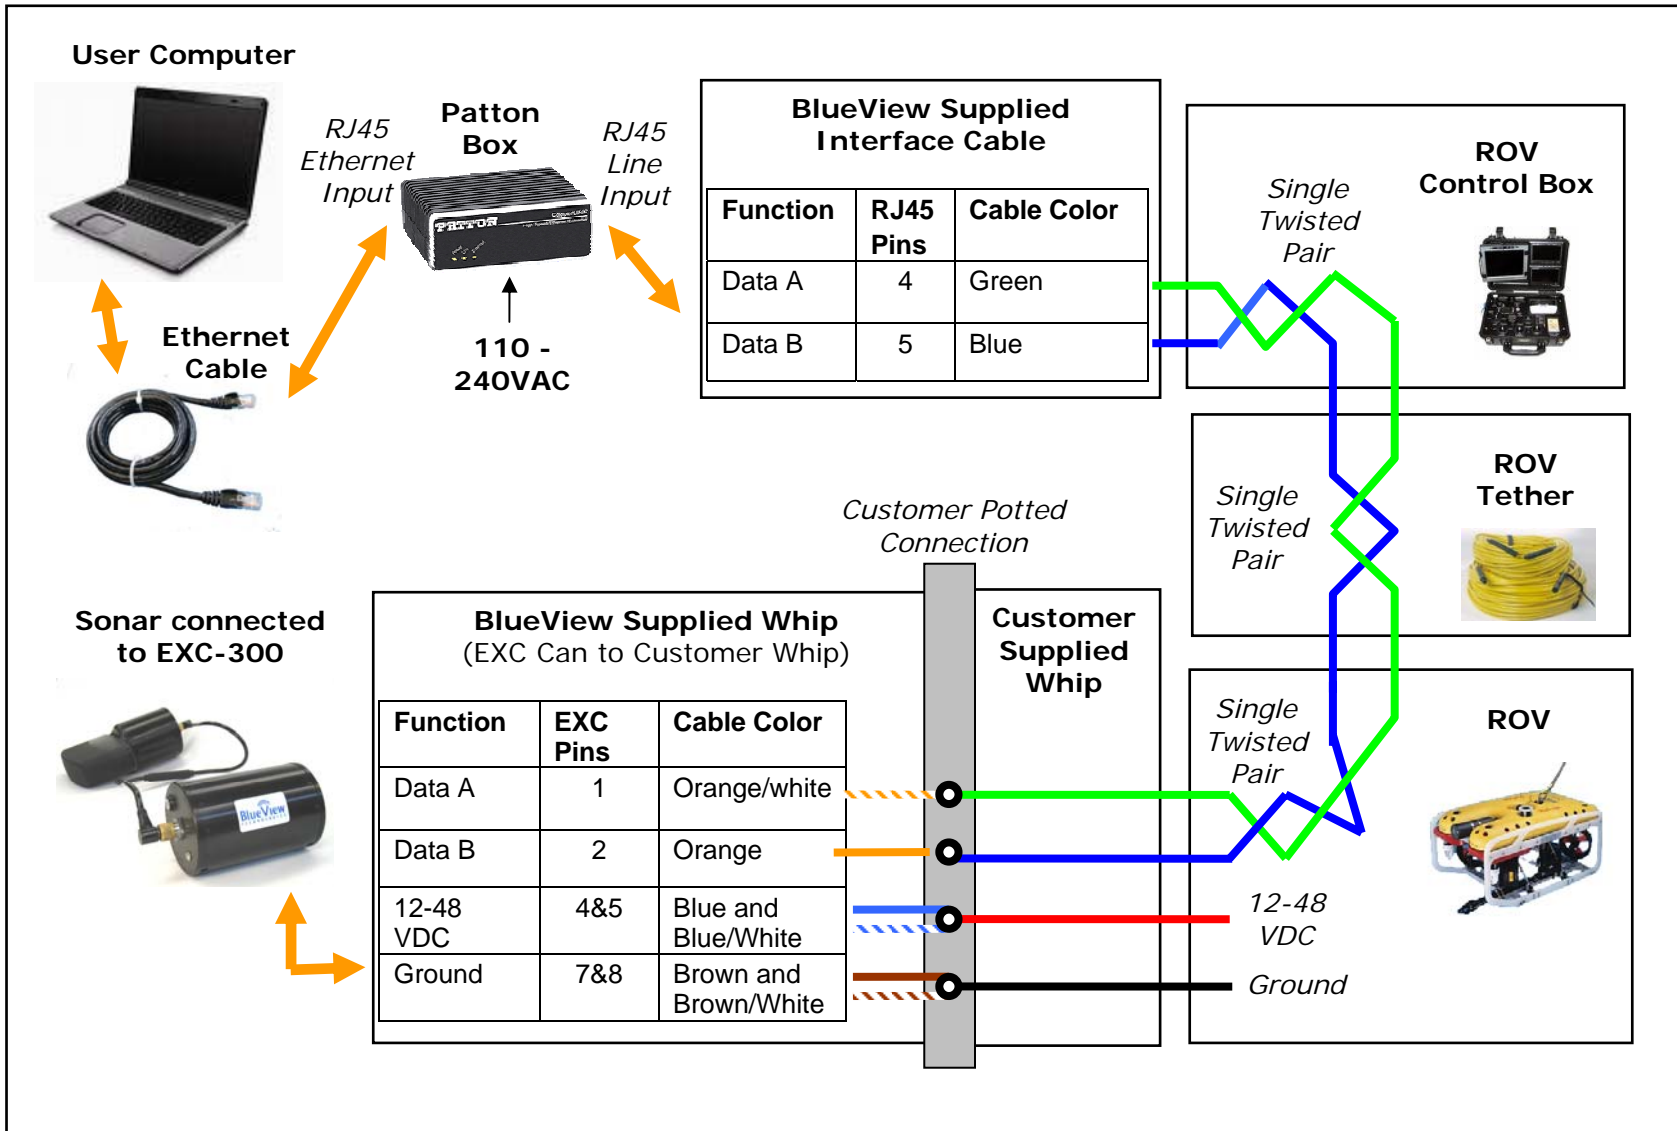

Figure 4.1 EXC-ROV Integration Diagram
Referring to Figure 4.1 below, follow these step to ensure reliable operation of your ProViewerE-EXC-ROV system.
2. Create an interface cable using the BlueView supplied cable whip and a cable whip specific to the ROV accessory connection. Refer to Figure 4.1 for connection information. Verify the system works before potting the connection